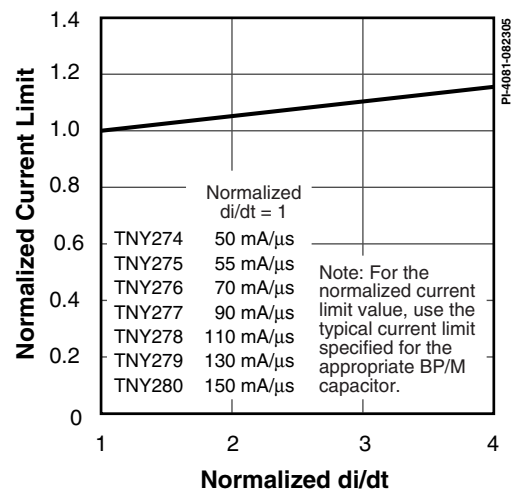

Figure 23. Current Limit vs. di/dt.
- E. For current limit at other di/dt values, refer to Figure 23.